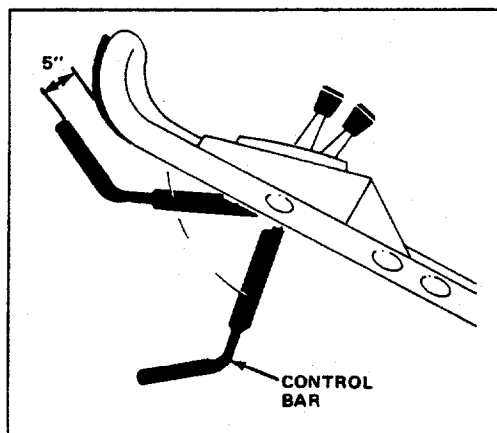

Figure 15
2. Push the control bar shown to the lowest position (Fig. 15). This "latches" the mechanism prior to engaging the blade.
6. Push the control bar down to its lowest position, latching the mechanism (Fig. 15).
7. Slowly lift the control bar to a point where the bag just begins to inflate (about 5" below the handle) (Fig. 15). This indicates that the mower blade is engaged and has begun to rotate.